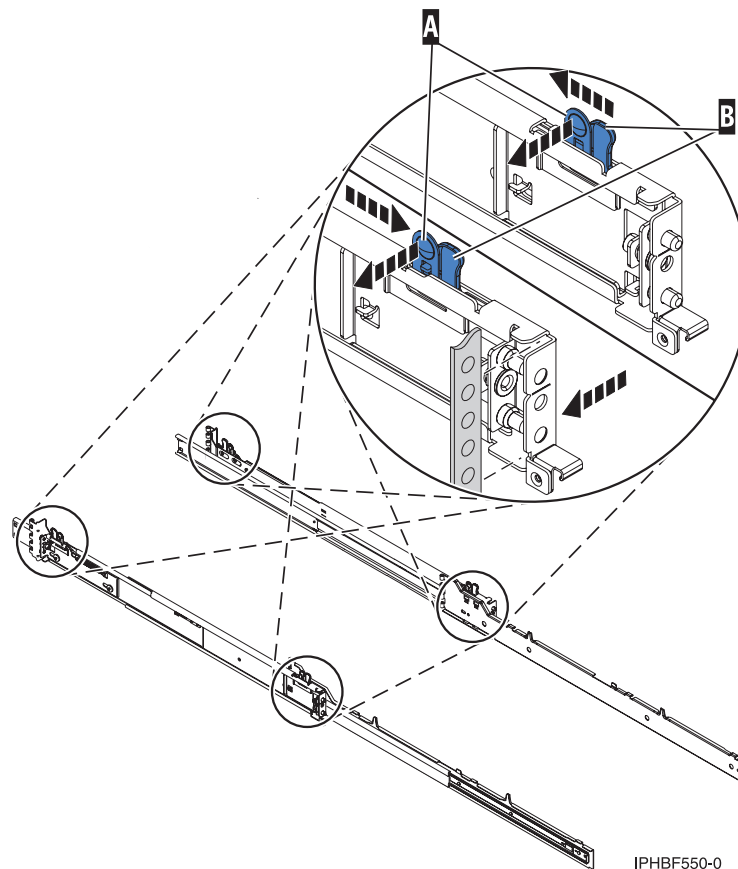

Figure 102. System rail assembly setup.
1. Setup the system rails to allow correct assembly with the rack and system unit. Refer to Figure 102 and then follow these steps:
2. From the back of the rack, insert the front-alignment pins (Figure 102) into the hole at the front of the rack identified by the self-adhesive placement dot that you previously installed. Have a second person hold the rail securely in the front hole.
3. Press the release tab **A** (Figure 102) to extend the front-alignment pins into the front of the rack. Ensure that the pin passes through the correct hole in the rack frame.
5. Press the release tab **A** (Figure 102) to extend the two back-alignment pins into the back of the rack. Ensure that the pins have passed through the correct holes in the rack frame.